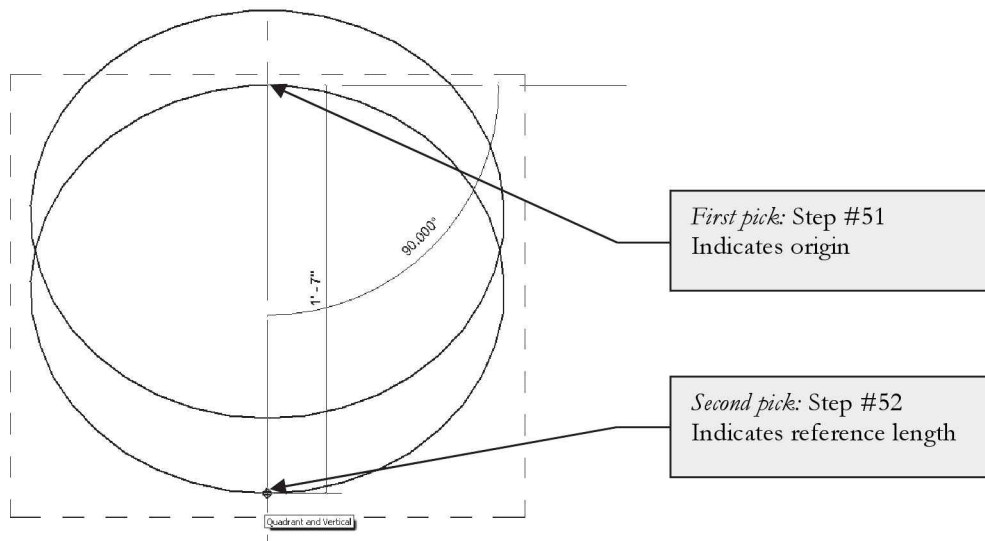

FIGURE 4-2.14 Scaling the ellipse
51. First pick: Pick the top edge, midpoint, of the selected ellipse (Figure 4-2.14).
52. Second pick: Pick the bottom edge, midpoint, of the same ellipse (Figure 4-2.14).